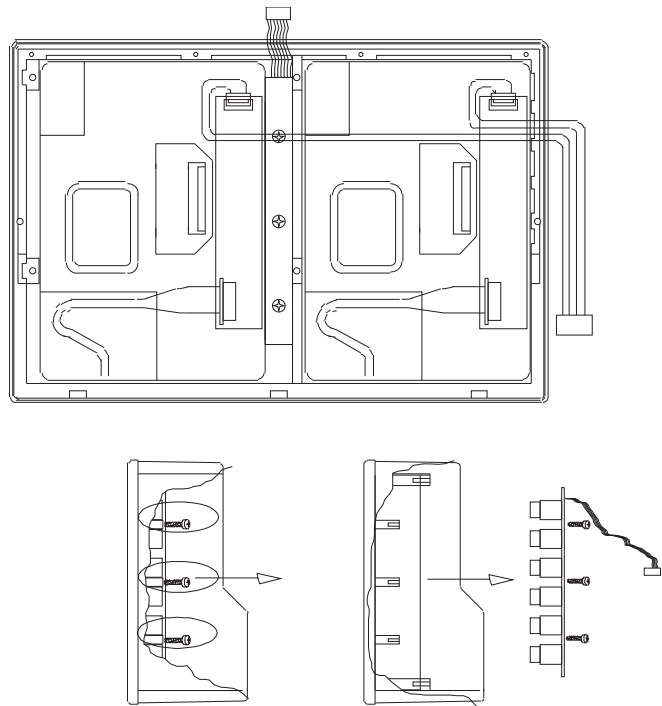

Fig. 8-7: Removal of switch pcb
9. Remove the fixing screws for the switch pcb and take board out of the frame. (fig. 8-7)